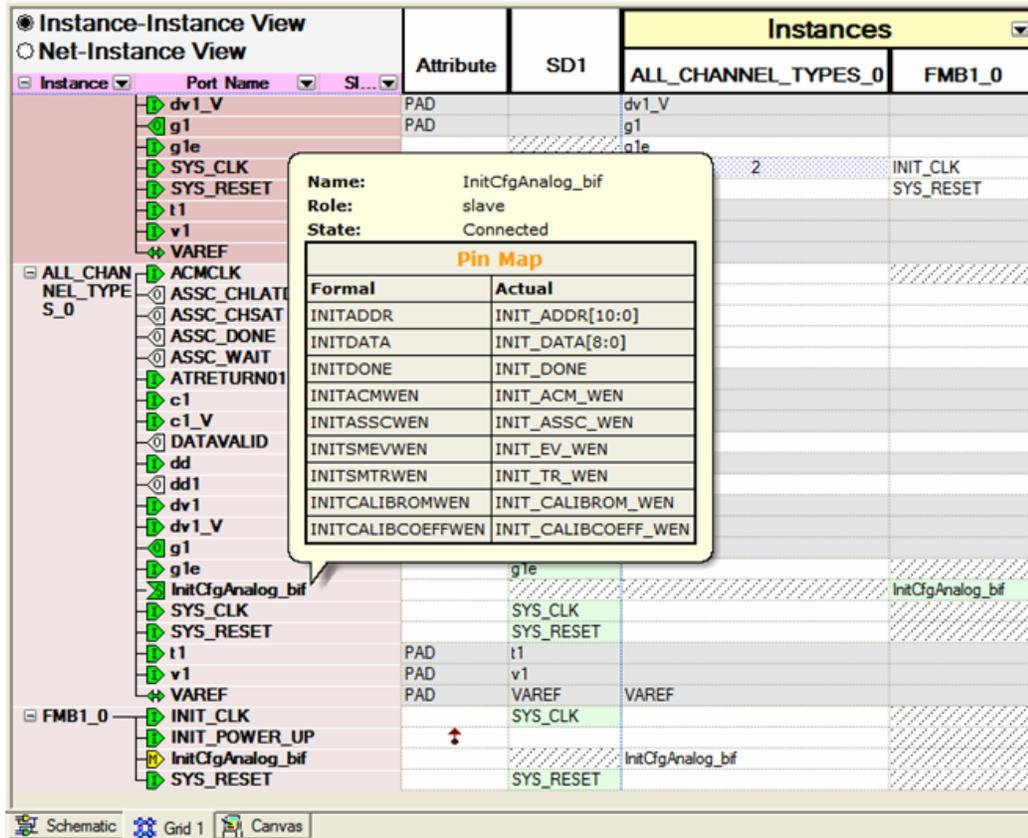

Figure 12-8 • SmartDesign Connectivity Grid in Libero Software v8.2 SP1
4. Make sure the additional ports (INIT_CALIBROM_WEN and INIT_CALIBCOEFF_WEN) are properly connected, either through SmartDesign (Figure 12-8) or HDL coding.